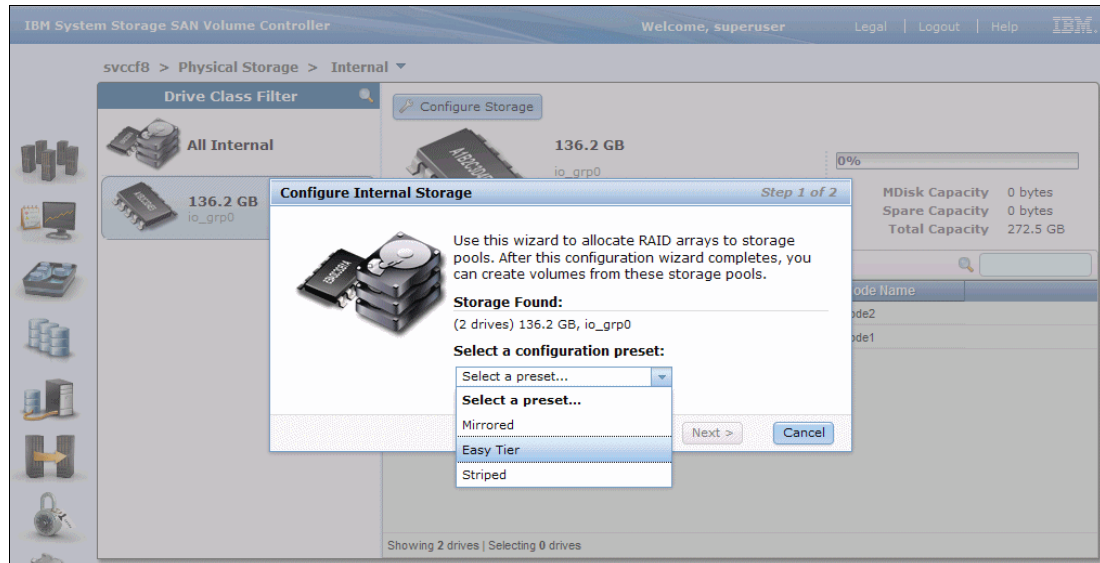

Figure 16-10 Selecting a RAID preset for the SSDs
16. Complete the following steps in the Configure Internal Storage window (see Figure 16-10):